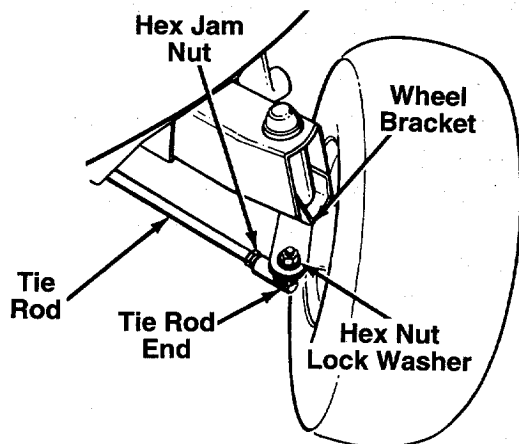

FIGURE 17.
1. Remove the hex nut and lock washer, and drop the end of the tie rod from the axle bracket. See figure 17.